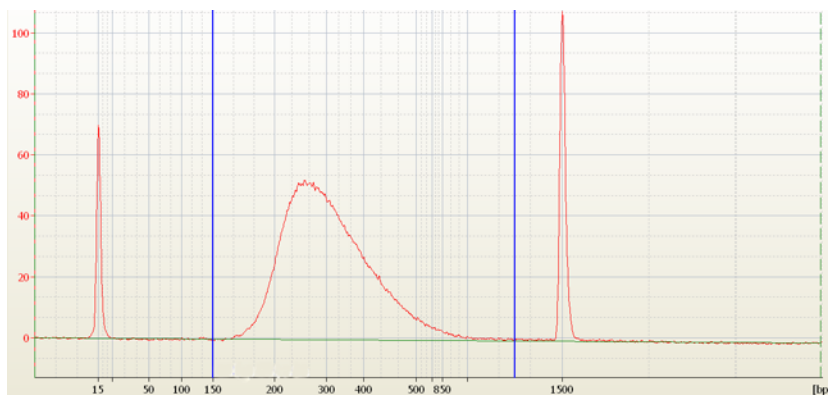

Figure 8 Analysis of amplified library DNA using a DNA 1000 assay.
- 6 Measure the concentration of the library (ng/ μL) by integrating under the peak at approximately 200 to 600 bp. For accurate quantification, make sure that the concentration falls within the linear range of the assay. A sample electropherogram is shown in Figure 8.